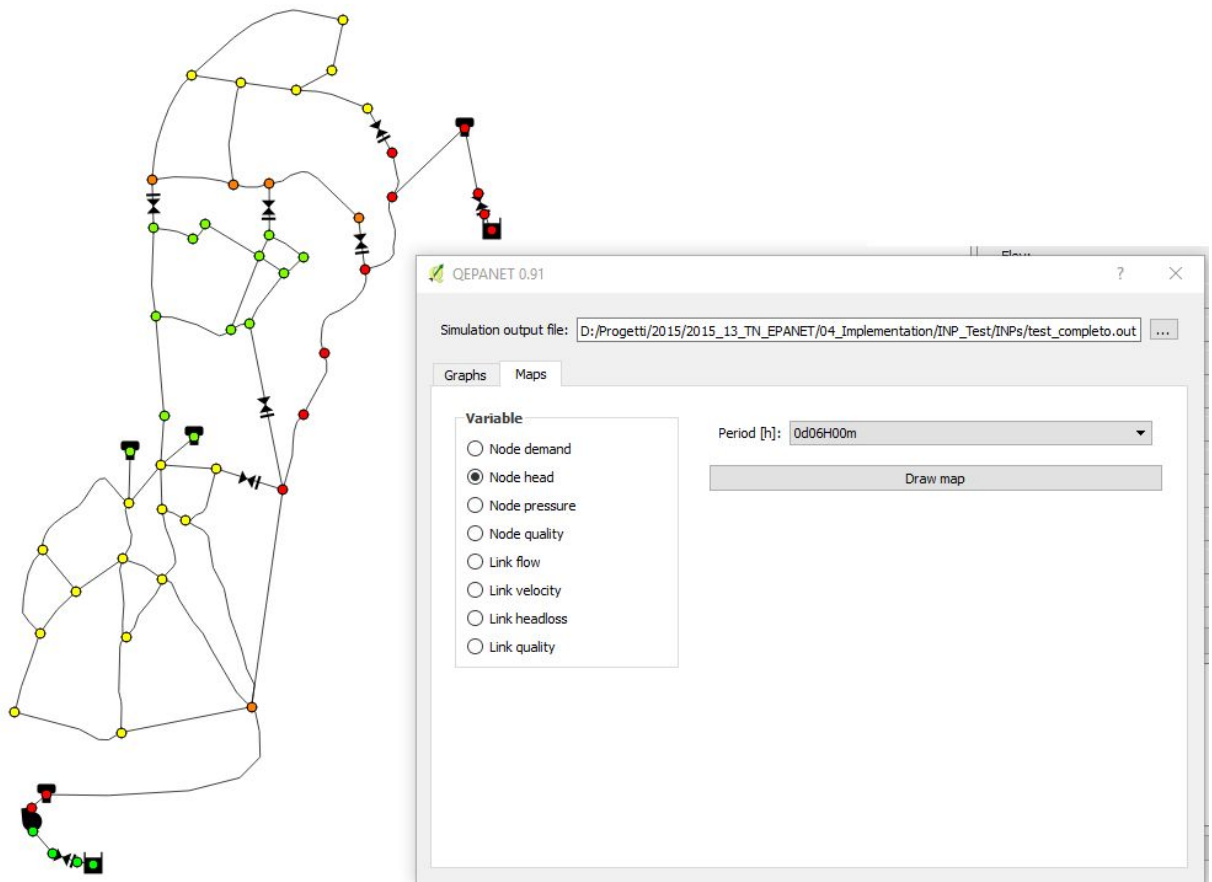

Figure 23. Output analyser - Maps.
- The “Maps” section (fig. 23) is used to create thematic maps of the network at a given simulation period. The network elements colors are function of the value of the selected variable.